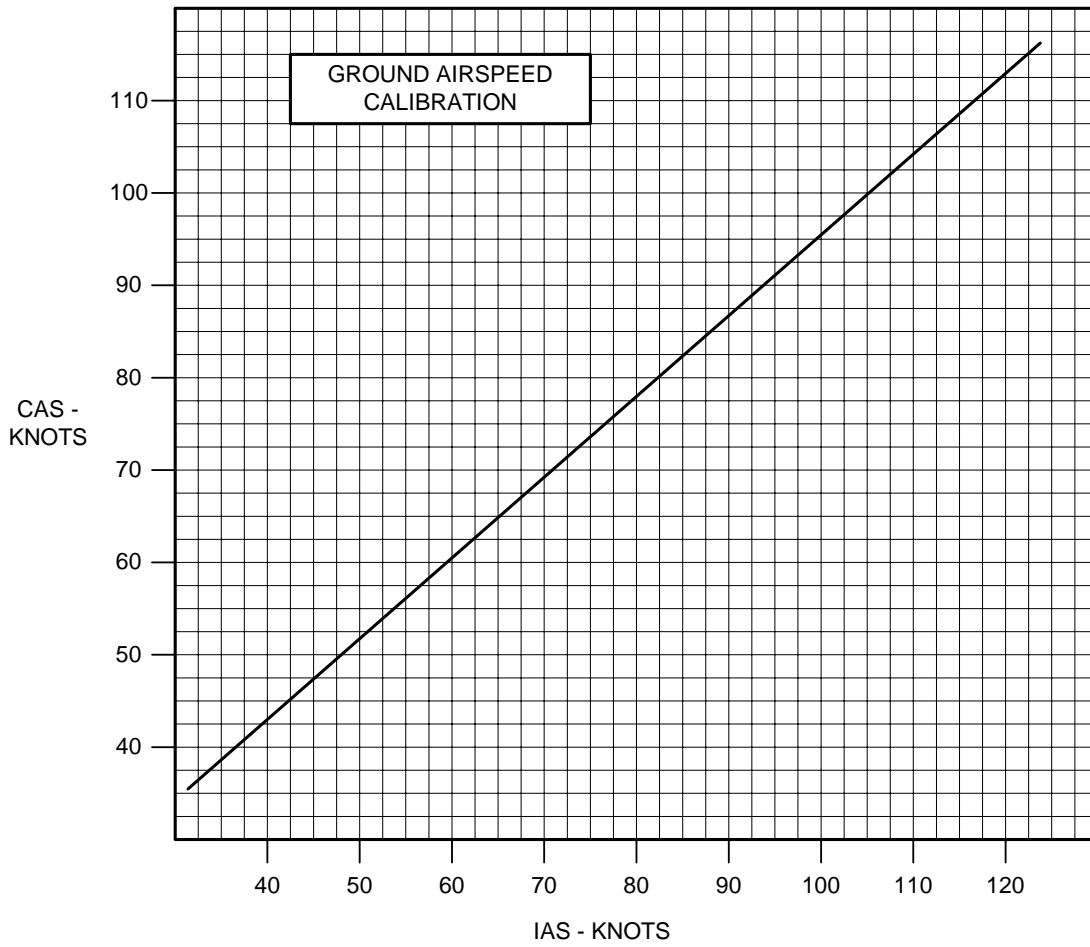

Figure A9-8 - GROUND AIRSPEED CALIBRATION
- (d) Plot IAS versus CAS within the required range of speeds. See Figure A9-8 for a sample plot.